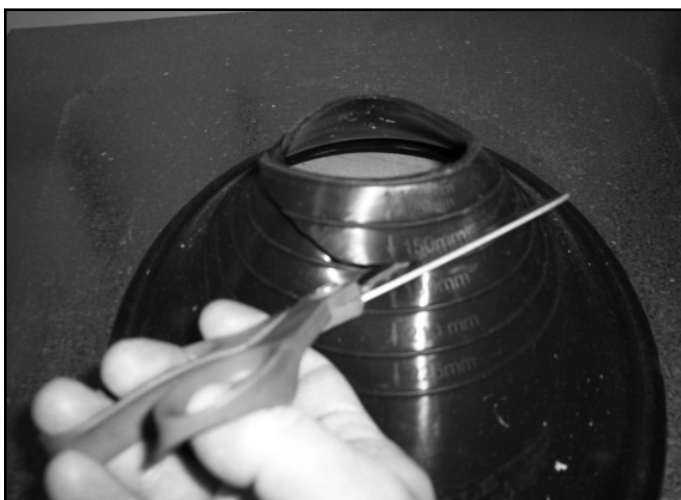

Figure 10.20 Trim Rubber Boot
- Trim the rubber boot (using scissors or a utility knife), cutting along the marked measurement lines. See Figure 10.20. Use the 150 mm line for SLP, 210 mm for DVP.